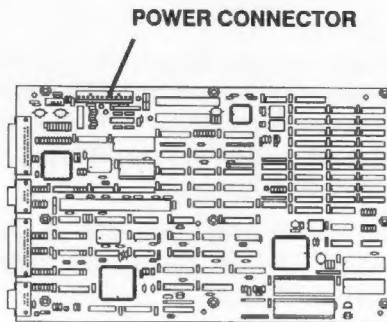

Figure 2. System Board Power Connector Location
- 2. Make sure the power cable to the system board is securely connected. Refer to Figure 2.